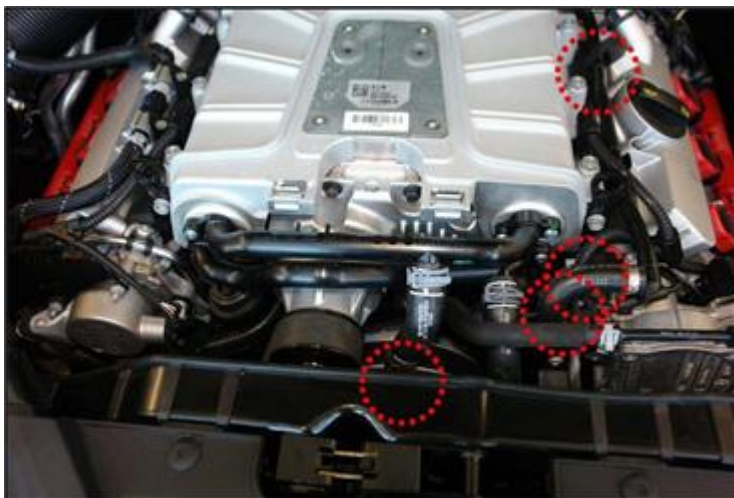

Figure 6. Sensors that need to be disconnected are circled in red.
4. Disconnect the following (Figure 6):